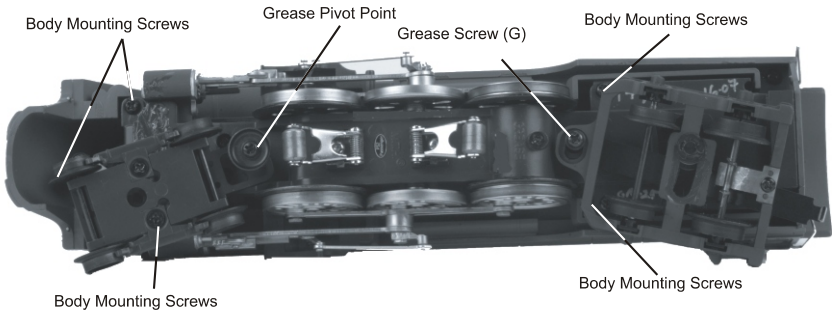
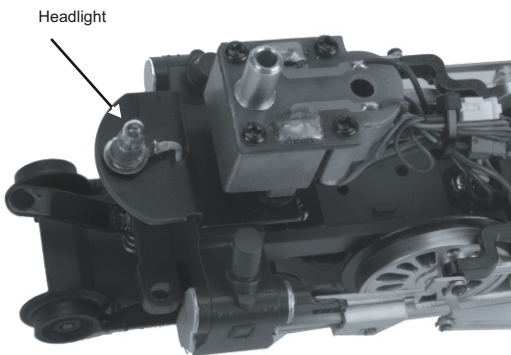

Figure 6. Removing the Body and Lubricating the Grease Points
Figure 8
You should also grease the leading and trailing locomotive truck tongues to enhance their ability to slide on the chassis. Follow the grease points shown on Fig. 6.
1. To replace the headlight in this model you will need to follow the disassembly instructions for greasing the engine in figure 6 on pg. 13. Once the boiler has been removed you can access the headlight(see figure 8).
If you experience poor or no smoke output when the smoke unit is on and has fluid, check the wick to see if it has become hard, blackened, and unabsorbent around the heating element. To remove the smoke unit you will first have to remove the boiler shell (by removing the body mounting screws shown in Fig 6 on pg. 13). To do this, follow these instructions: